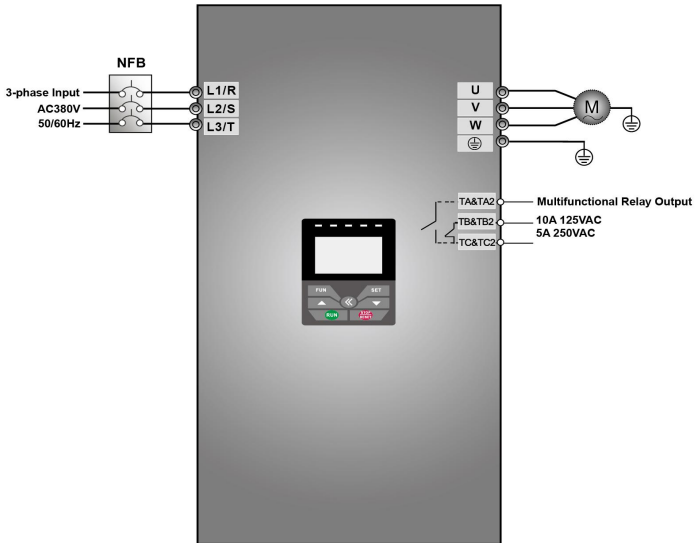

Figure 4-1 Wiring Diagram 1
Illustration of inverter basic operation: we hereafter show various basic control operation processes by taking a 7.5kW inverter that drives a 7.5kW three-phase asynchronous AC motor as an example in fig 4-1.
- (1) Connect the wires in accordance with Figure 4-1. After having checked the wiring successfully, switch on the air switch, and power on the inverter.
- (2) Press the “Fun” key, to enter the programming menu.
- (3) Measure the parameters of the motor.